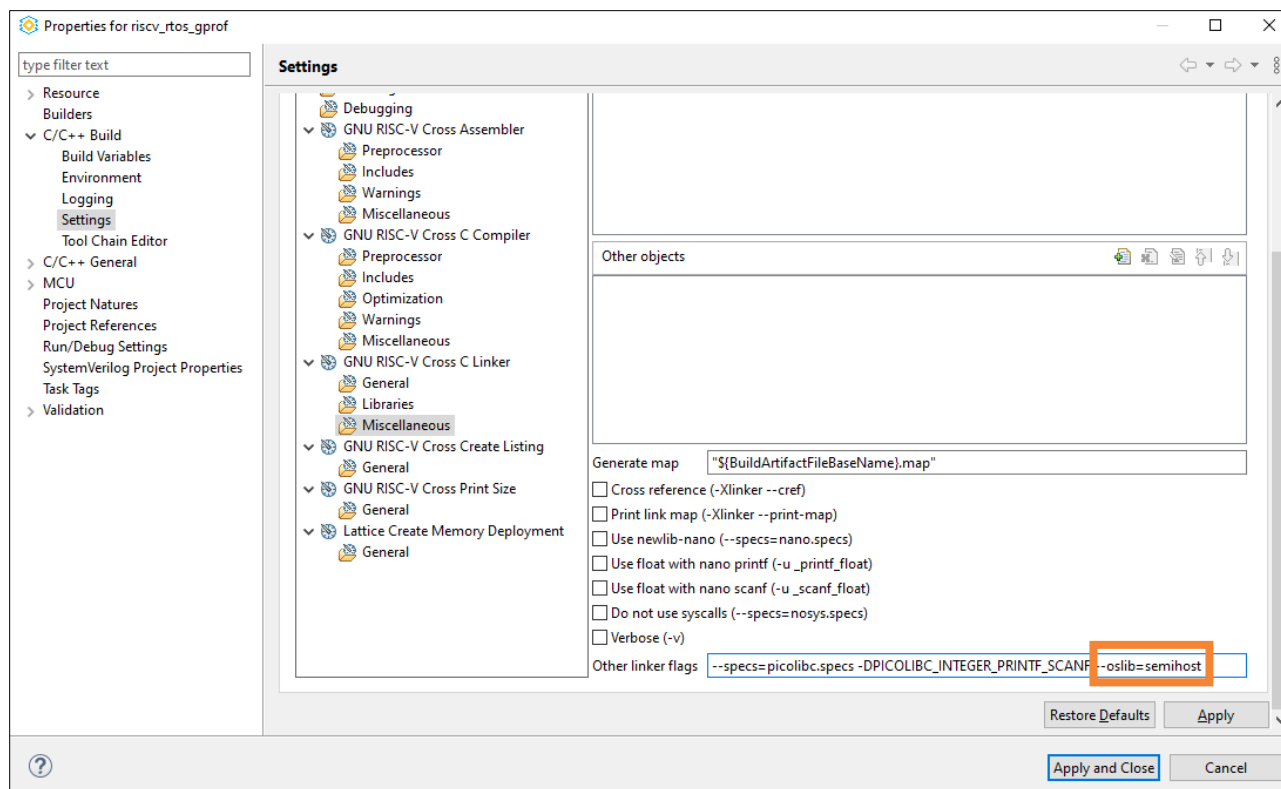

Figure 5.34. --oslib=semihost Linker Flag
6. Select **GNU RISC-V Cross C Linker > Miscellaneous**. Check link flags in the label, Other linker flags. Make sure the linker flag, --oslib=semihost, is supported (Figure 5.34).